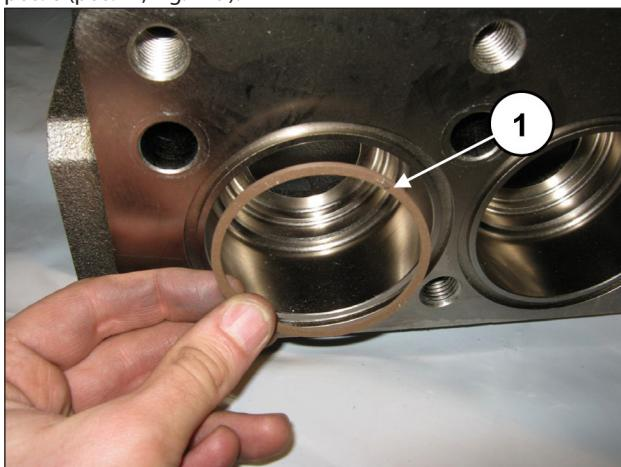

Fig. 149
Fit the back-up ring in the suction housing, exploded view pos. 6 (pos. ①, Fig. 149).